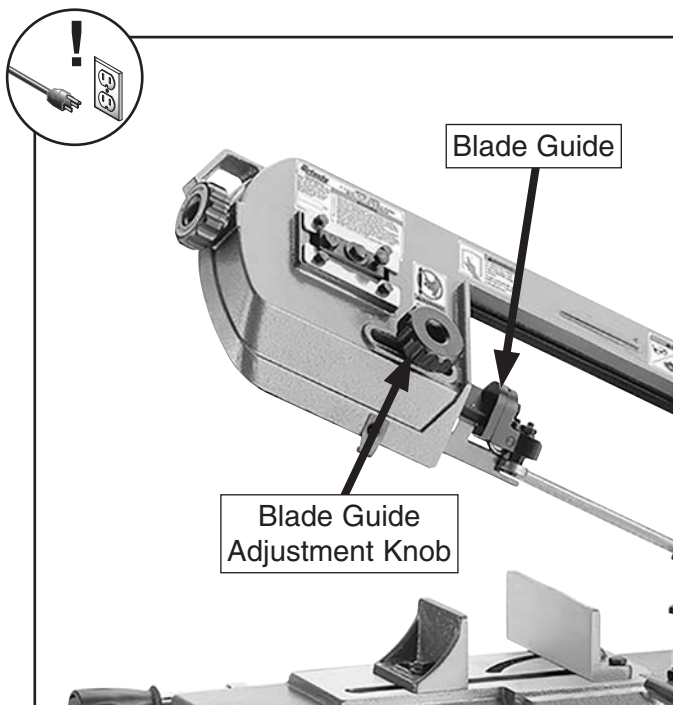

Figure 25. Blade guide.
2. Loosen blade guide adjustment knob shown in **Figure 25** and slide blade guide as close to workpiece as possible, then tighten knob.